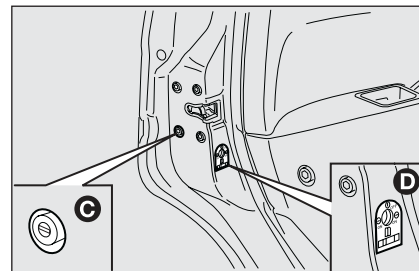

fig. 19
- cut-in of door lock device **C**-fig. 19 when the electric system is failing (e.g. run-down battery);
- cut-in of child lock safety device **D**-fig. 19 on rear doors.